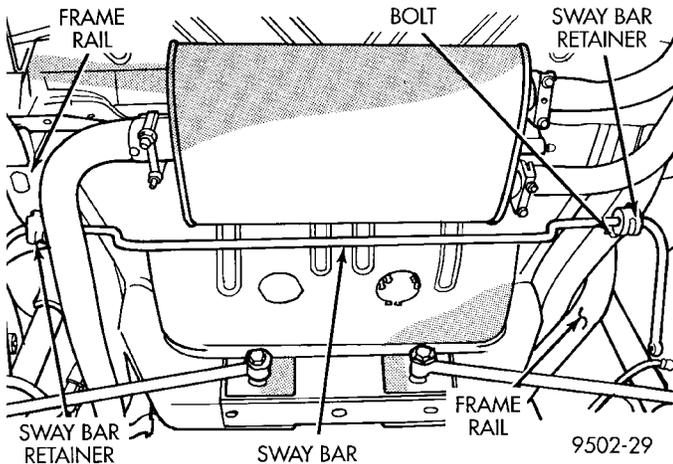

Fig. 10 Sway Bar To Frame Rail Retainers
- (4) Rotate stabilizer bar down slightly to clear attaching links.
- (5) Remove the 2 stabilizer bar to rear frame rail retainers (Fig. 10).
- (1) Install stabilizer bar and isolator bushings back into the vehicle as an assembly. Position stabilizer bar so it is centered in the vehicle and does not contact other suspension components or vehicle body.
- (2) Install the 2 stabilizer bar to frame rail retainers into frame rail and loosely install both retainer attaching bolts (Fig. 10).